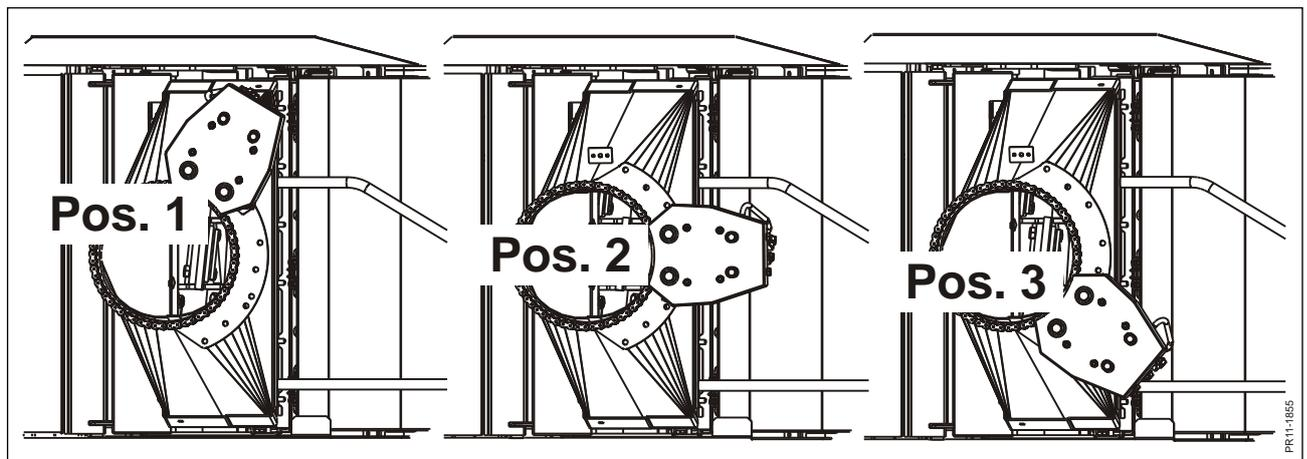

Fig. 3-12
- Fig. 3-12** Pos. 1 for unloading to the right